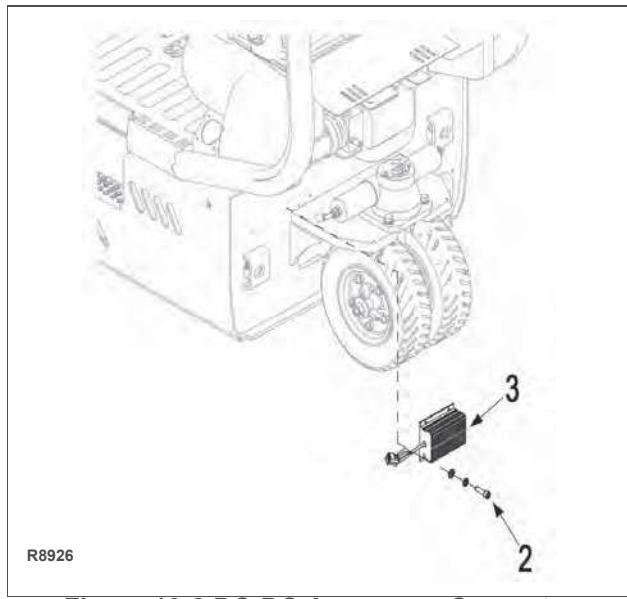

Figure 10-8 DC-DC Accessory Converter
4. Disconnect harness from DC-DC accessory converter (3, Figure 10-8).
5. Remove the four screws (2).
6. Remove the DC-DC accessory converter (3).